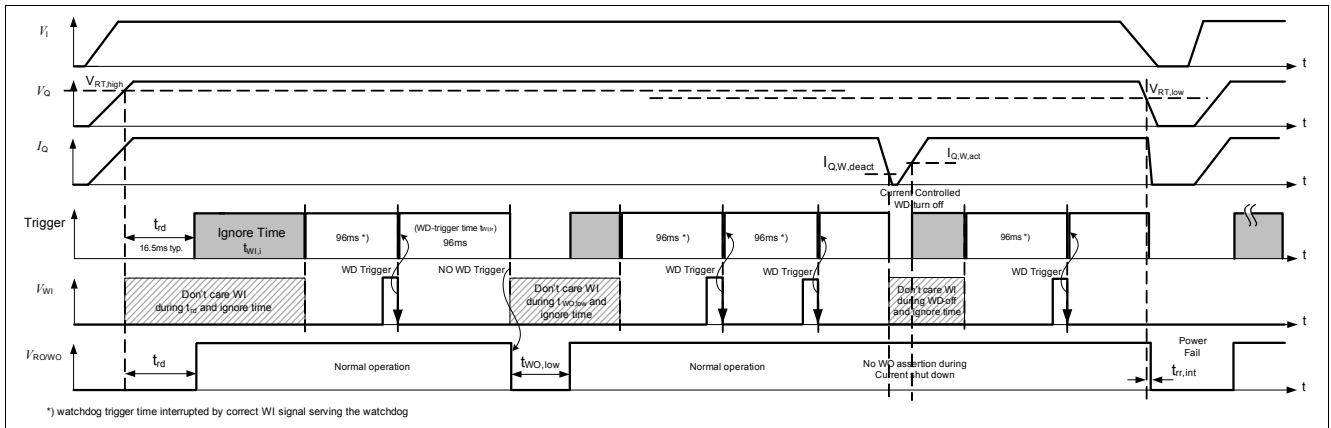

Figure 9 Typical Watchdog Timing Diagram, Watchdog and Reset Modes
Figure 9 shows the state diagram of the watchdog (WD) and the mode selection. After power-on, the reset output signal at the “RO/WO” pin (microcontroller reset) is kept LOW for the reset delay time  $t_{rd}$ . With the LOW to HIGH transition of the signal at “RO/WO” the device starts the watchdog ignore time  $t_{WI,i}$ . Next, the WD starts the watchdog trigger time (time frame within a trigger at WI must occur).